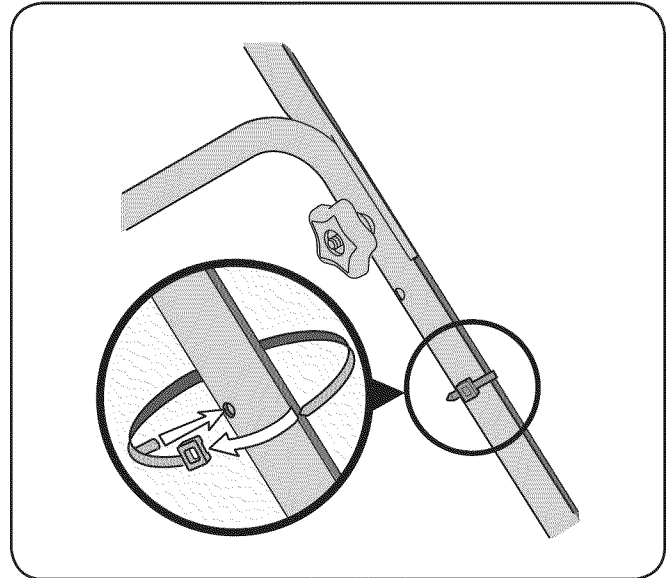

Figure 3-6
1. Secure the cable to the lower left handle near the base of the unit with a cable tie. See Fig. 3-6. Trim off any excess.